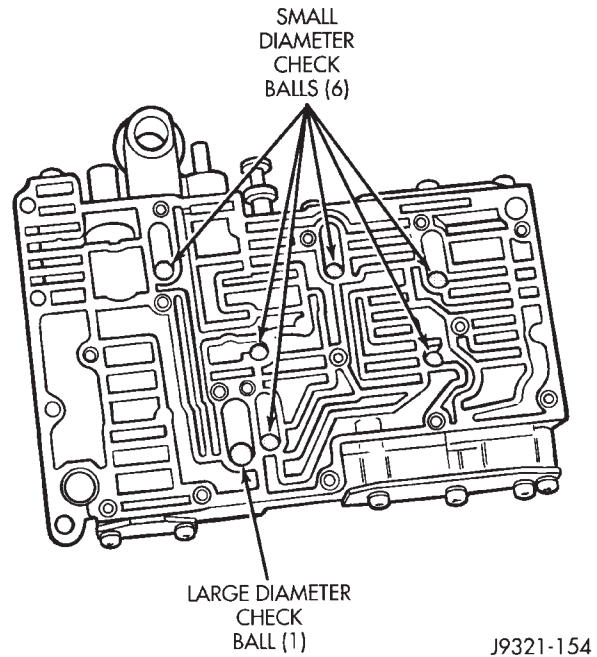

Fig. 72 Check Ball Locations In Upper Housing
- (1) Note location of check balls in valve body upper housing (Fig. 72). Then remove the one large diameter and the six smaller diameter check balls.